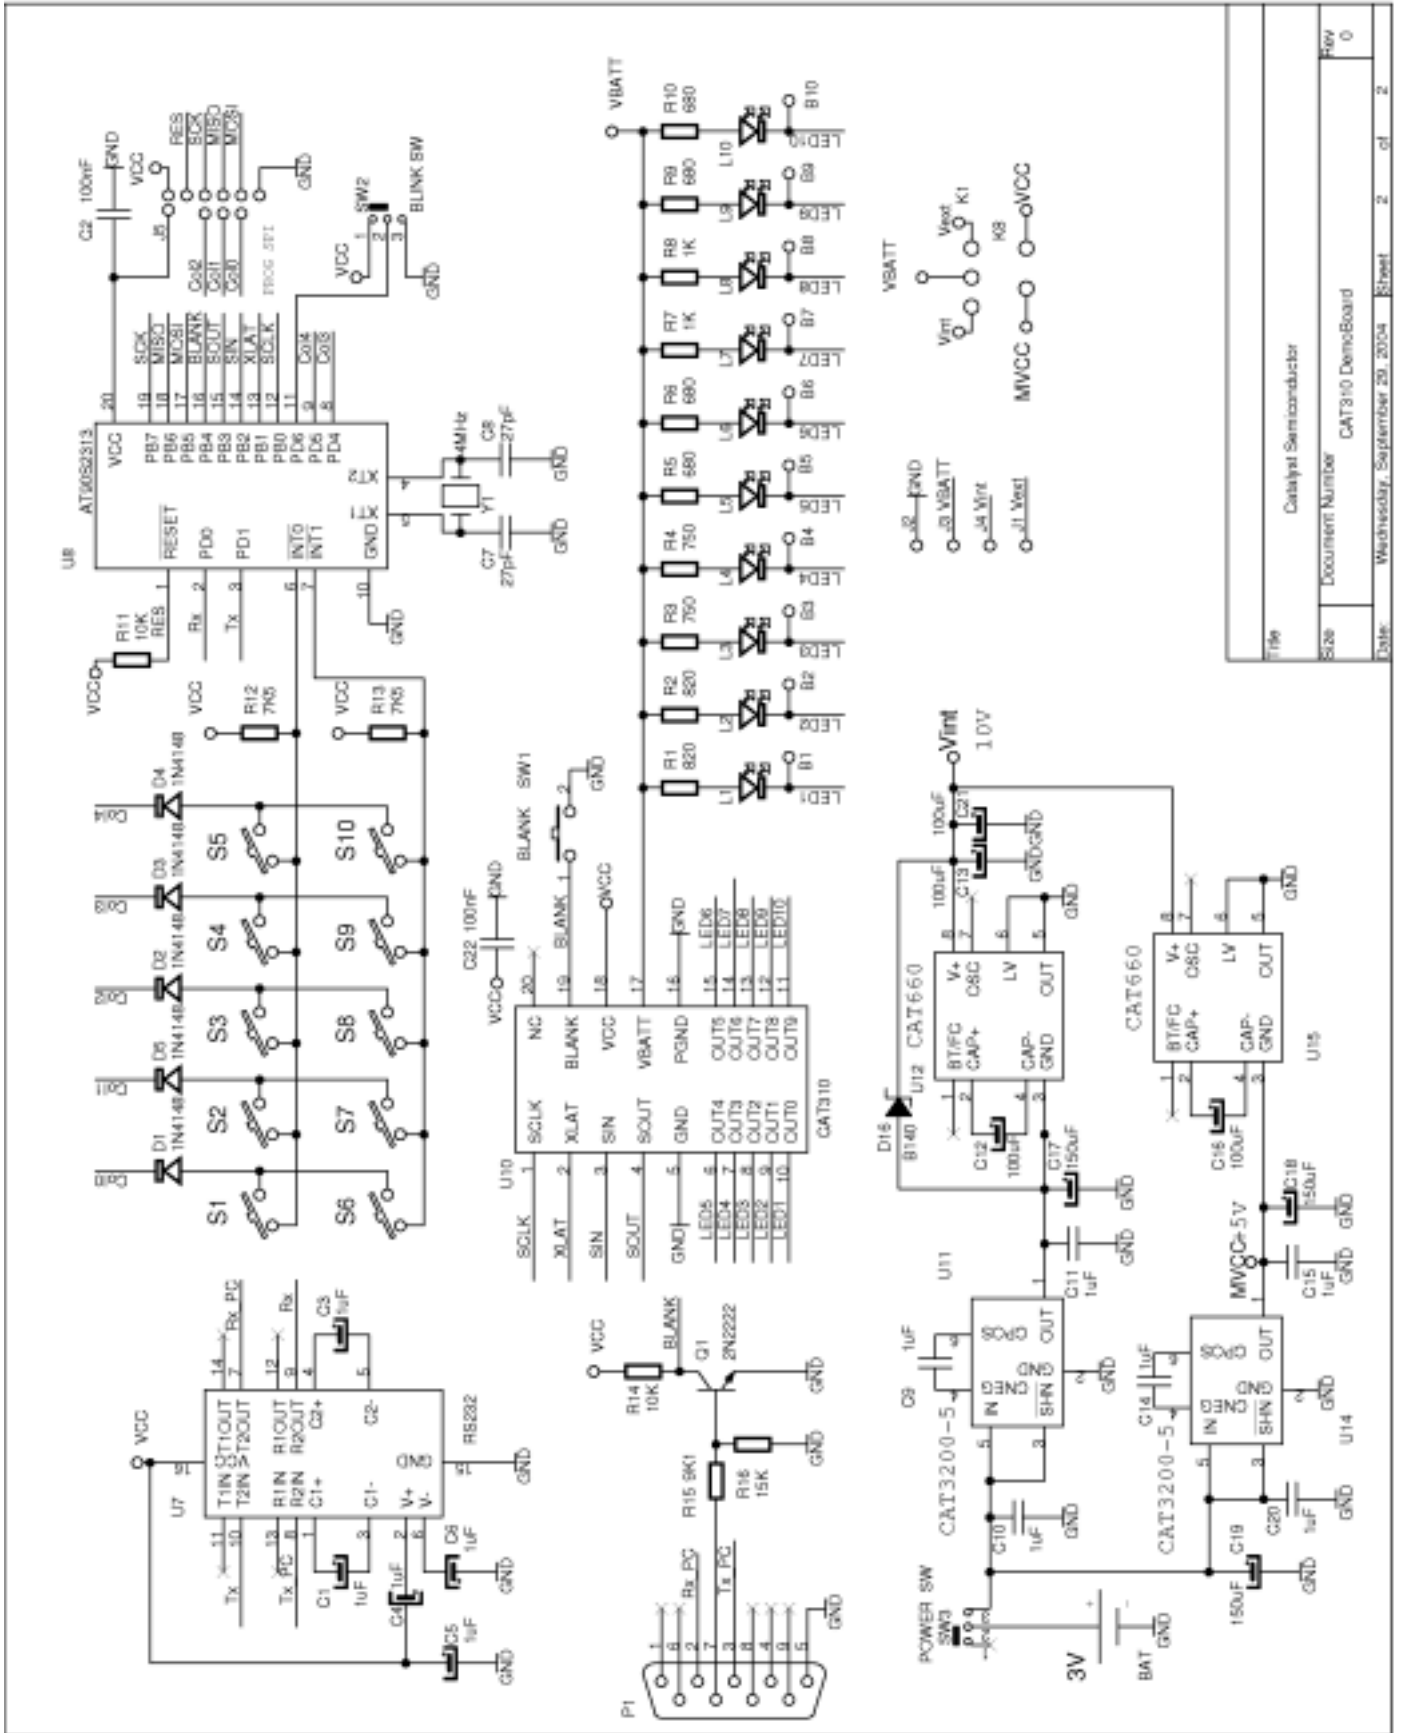

Figure 6. CAT310DB1 Board Schematic
- Figure 6. CAT310DB1 Board Schematic